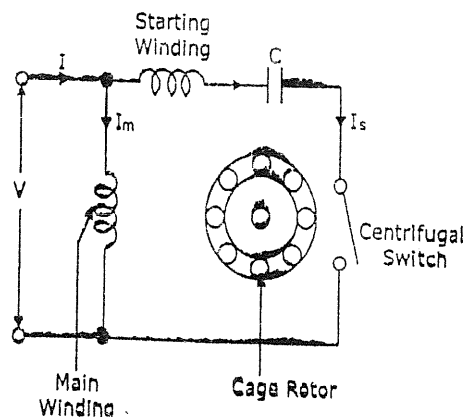

FIG. 4.24 : CAPACITOR START INDUCTION MOTOR
- As shown in Fig. 4.24, the two windings, namely; main winding and starting winding are connected in parallel across the supply voltage V .